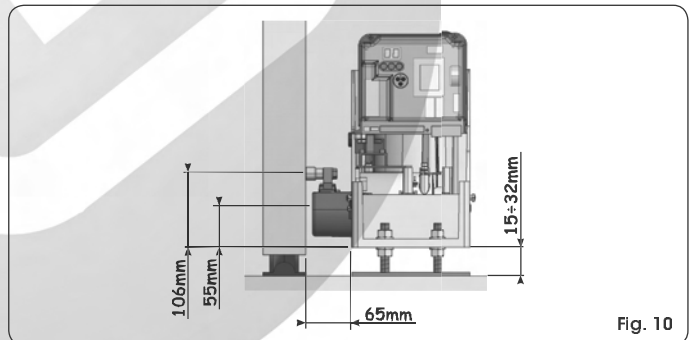

Fig. 10
- ⑤ Adjust the height of the feet and the distance from Fig. 10.